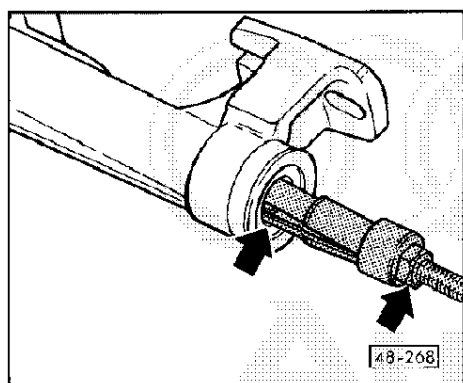

Fig.1 Pulling out rack seal
- ◆ Extracting => Figs. 1 and 2